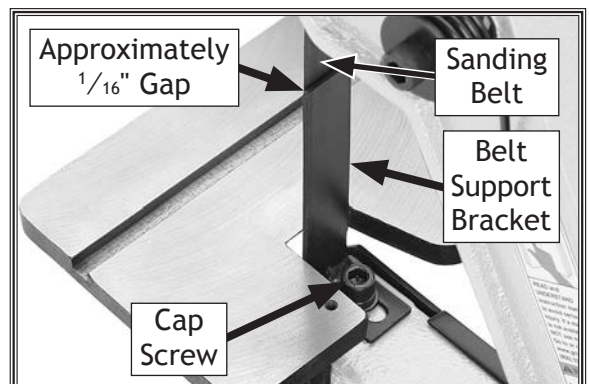

Figure 21. Sanding belt support.
- Loosen belt-support bracket cap screw shown in **Figure 21**, adjust support bracket approximately $\frac{1}{16}$ " away from the sanding belt, then re-tighten cap screw.